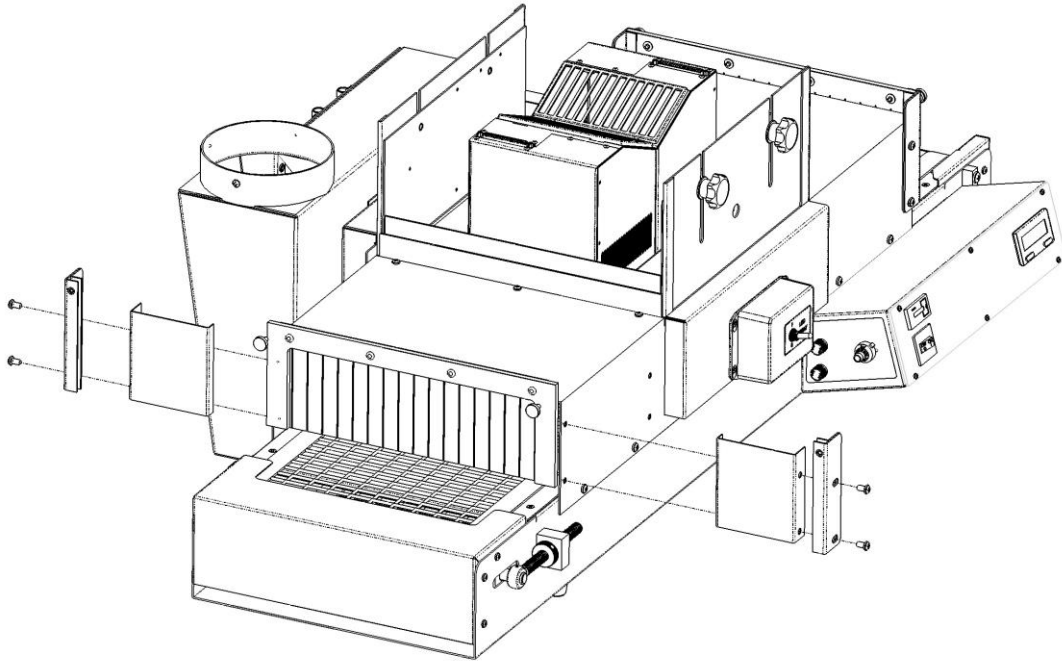

Figure 14. Install Adapter Plates between Conveyor and Light Shield Bracket
2. Line up the mounting holes on the Adapter Plate with those on the Light Shield Bracket. Mount the Adapter Plate/Light Shield Bracket Assembly to the Conveyor with the screws removed previously. The Adapter Plate should be between the Conveyor and the Light Shield Bracket (Figure 14).